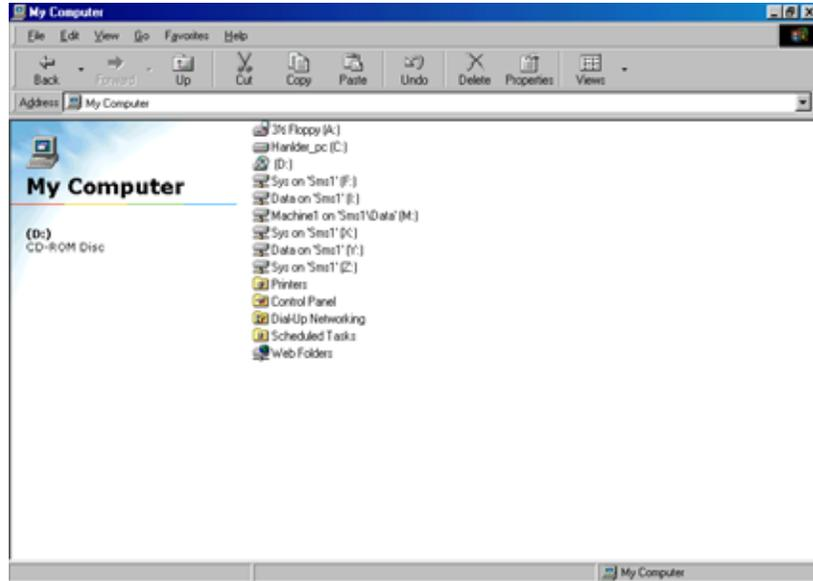

Figure 6-92—Handler Computer directory
- 2c) Within the Machine X directory is a subdirectory for each Programmer Computer called ProgX, where X is the number of the programmer. See *Figure 6-92*.